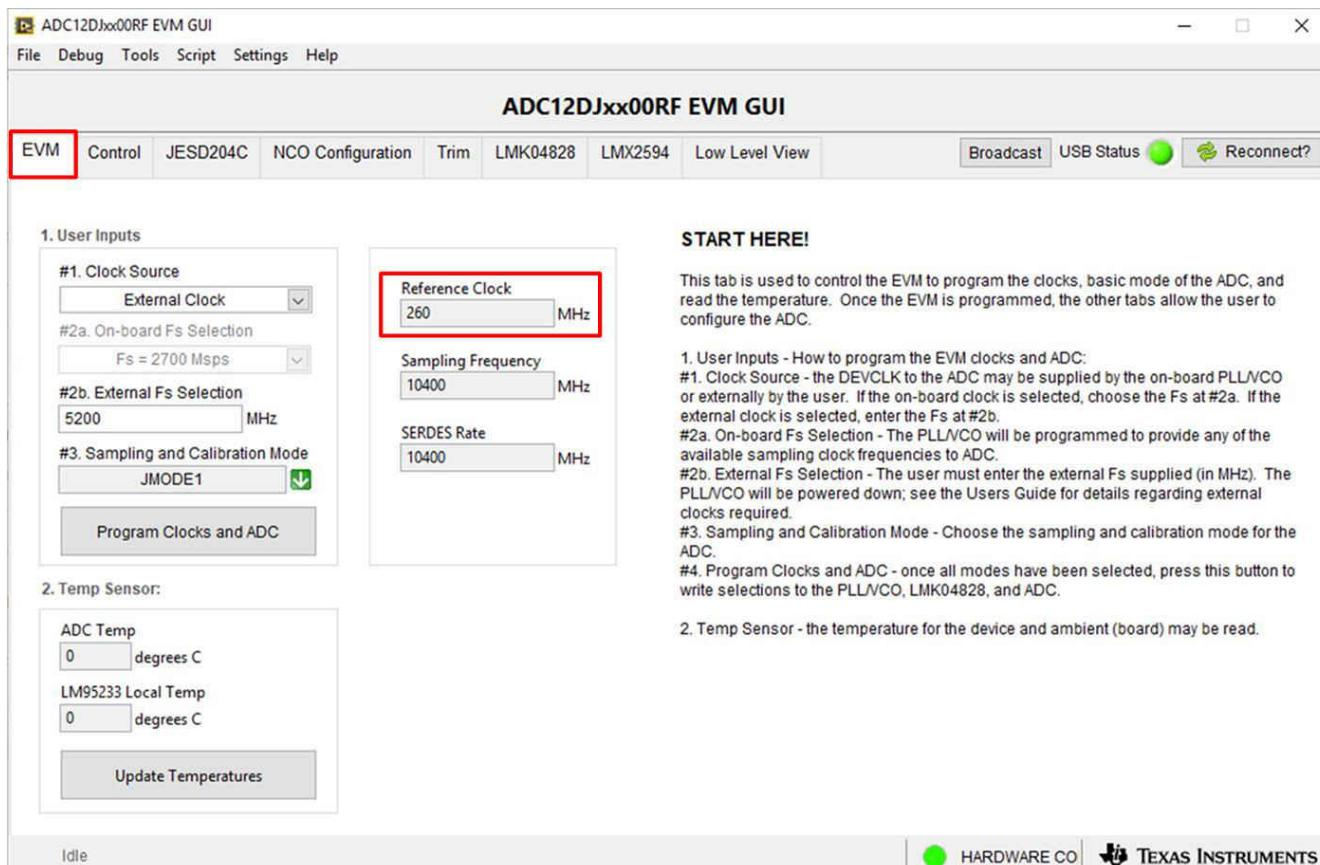
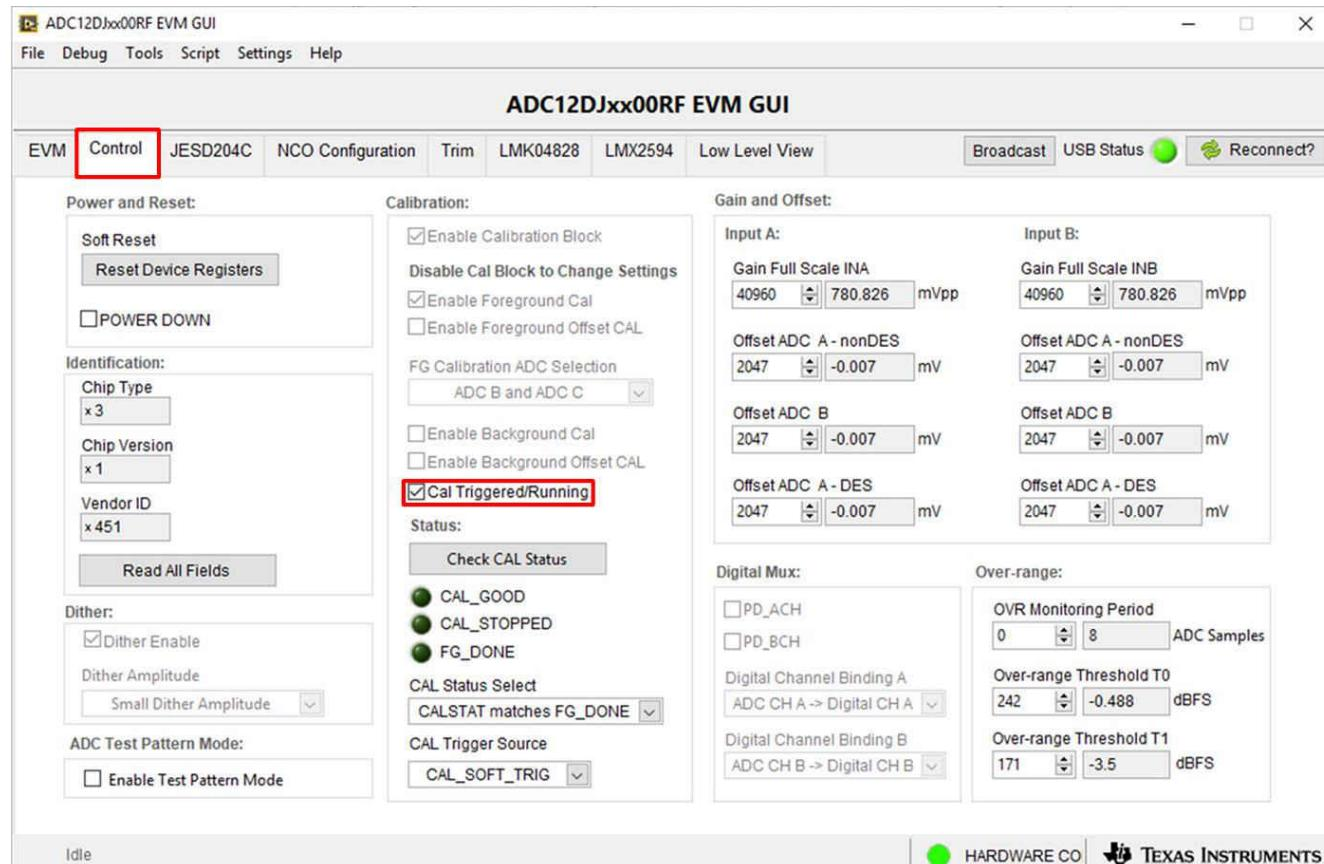

Figure 3-2. Configuration GUI EVM Tab
Figure 3-3. Configuration GUI ADC Control
- a. The Reference clock frequency can be obtained from the ADC12DJ5200EVM GUI. Once the ADC12DJ5200EVM GUI is configured to the desired JMODE mode and clock rate. The Reference Clock frequency required by the EVM is displayed on first page of the GUI shown with red square in Figure 3-2
Figure 3-2 and Figure 3-3 show the GUI open to the *EVM* tab and *Control* tab respectively. Tabs at the top of the panel organize the configuration into device and EVM features with user-friendly controls and a low-level tab for directly configuring the registers. The EVM has three configurable devices, namely the ADC12DJ5200RF/SE, LMK04828, LMK61E2, and LMX2594. The register map for each device is provided in the device data sheet ([ADC12DJ5200RF/SE 10.4-GSPS Single Channel or 5.2-GSPS Dual Channel, 12-bit, RF, LMK0482xB Ultra Low-Noise JESD204B Cmplnt Clck Jitter Cleaner w/ Dual Loop PLLs](#), and LMX2594 15-GHz Wideband PLLatinum™ RF Synthesizer, respectively).